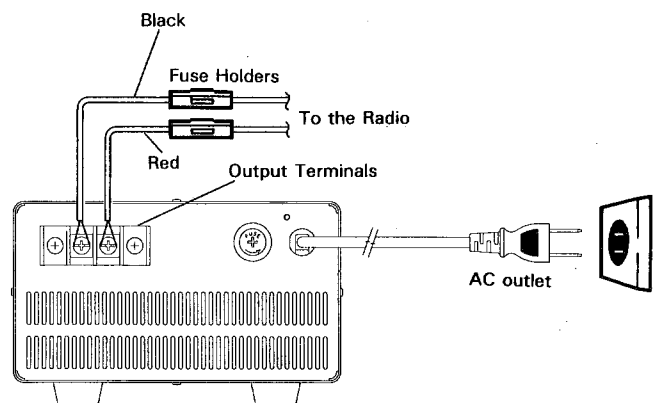

Fig. 3-1.
1. Connect the DC Power Cable from the radio to the Output Terminals on the Rear Panel, as shown in Fig. 3-1.